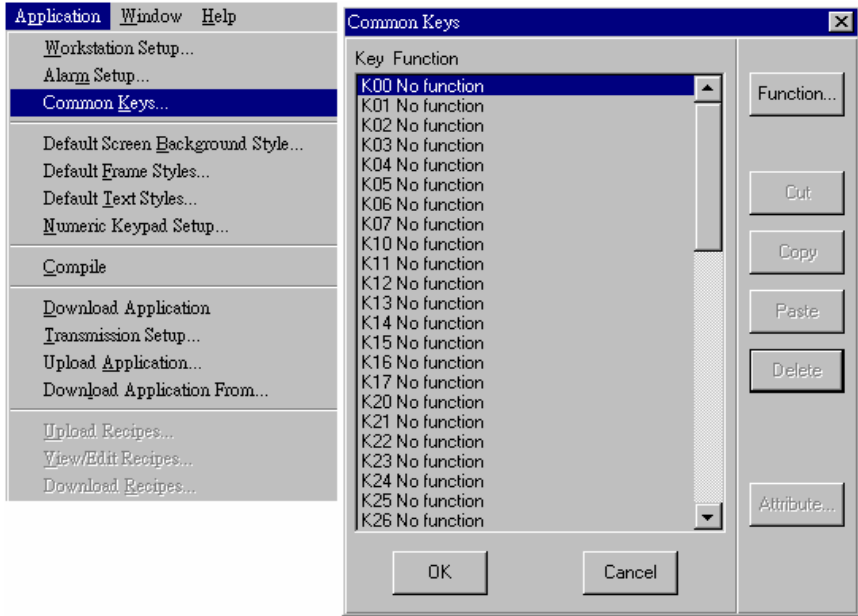

Figure A-2
- 1) **Common Keys** - A common key is used to activate a designated function no matter what the current screen is. For example, you can press the key K01 to return to the screen 1 whenever you want if the key is configured as a common key that goes to screen 1. To configure common keys for your application, select Common Keys on the Application sub-menu of the ADP3 as shown in the Figure A-2.